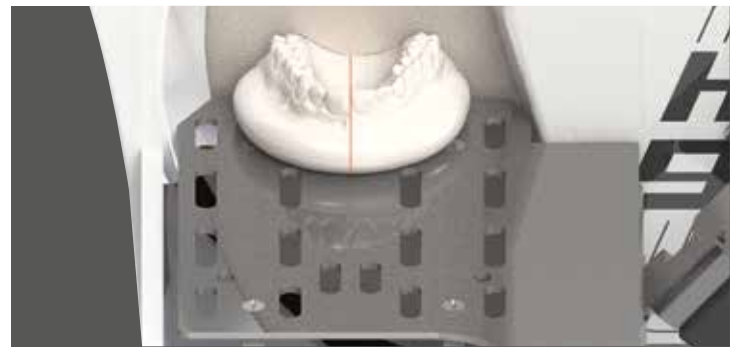

Fig. 10
- Mark the Raphe-Median-Line with a pencil and lay the model with the ground base onto the working surface. Move it towards the trimmer disc so that the ghost line and the Raphe-Median-Line mark correspond (Fig. 10). When required dorsal limit is reached the grinding process is completed.